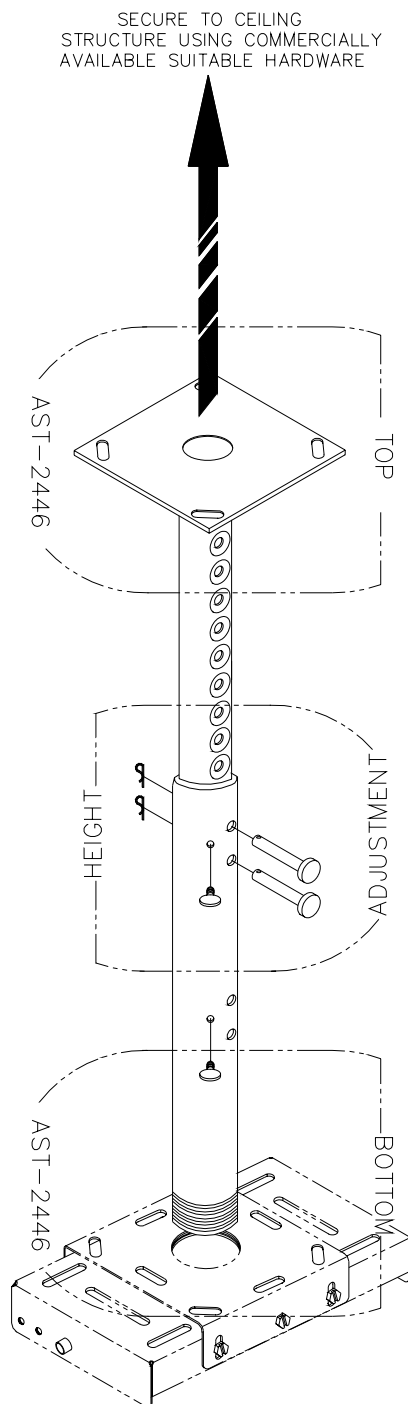

Figure 2.
2. Once the upper pipe has been properly secured to the ceiling structure. Screw the base box or any ceiling adapters to the lower portion of the AST-2446 and secure it with the jam nut (supplied). Slide the lower tube to the secured pipe, adjust the desired height and lock with the two (2) height adjustable locking pins. Then screw in the three (3) thumbscrews to stabilize the pipes (Figure 2).